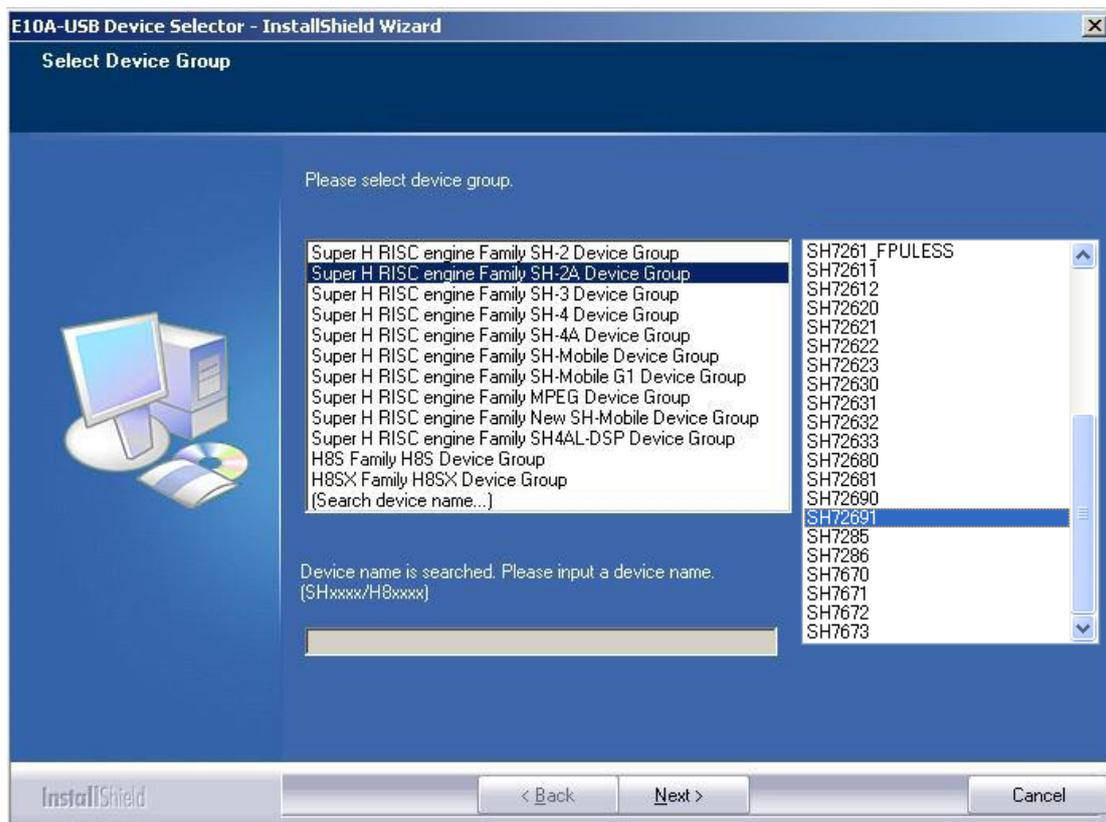

Figure 3.2.3 E10A-USB Software Installation Procedure (3/7)
(3) Following dialog box will appear as Figure 3.2.3. Select "SuperH RISC engine Family SH-2A Device Group", a desired device (e.g. SH72691) and click "Next".